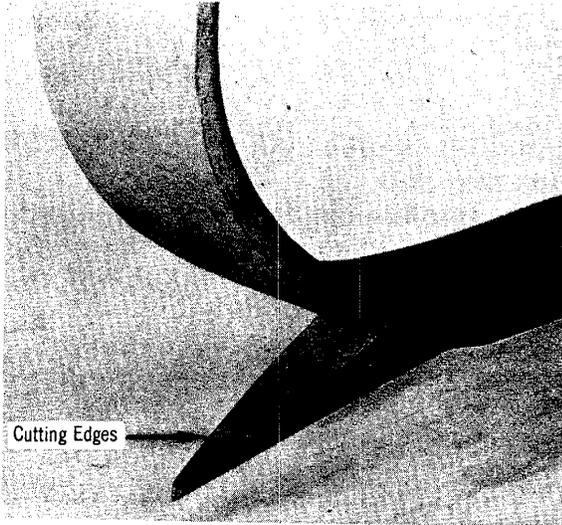

Fig. 17 — Gaff Cutting Edges
7.01 During normal use of climbers the edges along the inner surface (cutting edges), Fig. 17, may become dull. The honing stone should be used to maintain sharp edges. Remember that even a dull gaff can cut your finger so hone carefully.